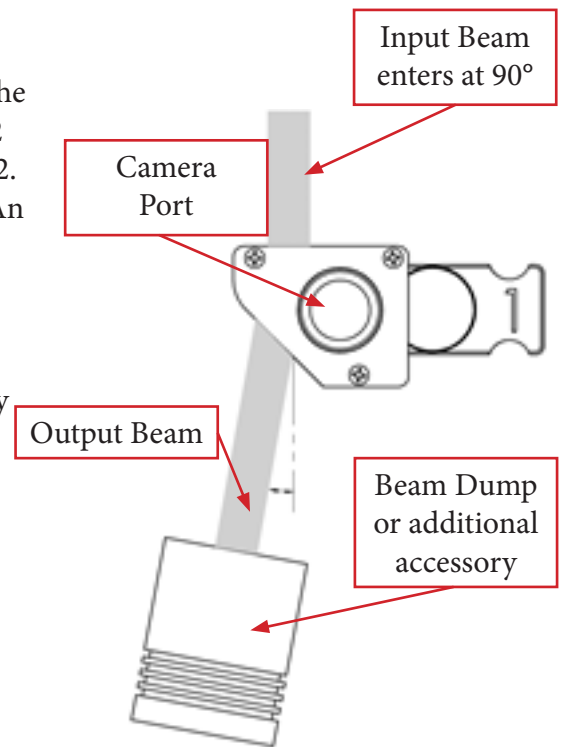

Figure 2
2. Position the LBP2-SAM-2 so the laser beam enters the center of the input port at a 90° incidence. The beam will exit the LBP2-SAM-2 turned approximately 6 degrees in the direction shown in Figure 2. Provision must be made to safely contain the transmitted beam. An optional beam dump is available to contain the beam if required.